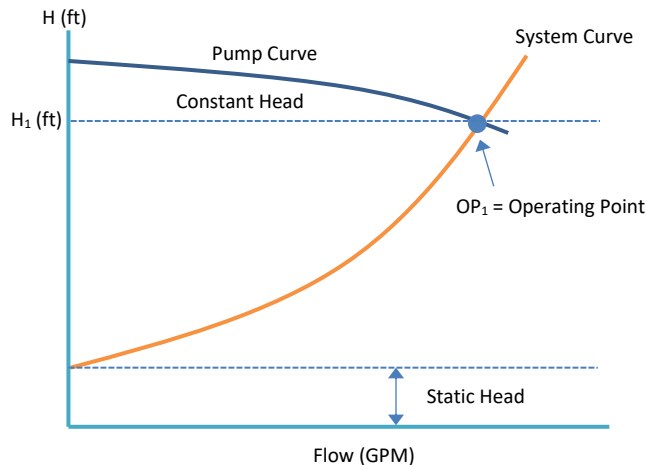

Figure 3-6 Pump and System Curves (Yorkland Controls 2019) (Eaton 2012)
3. On a call for 2nd stage heat the fan will ramp up to 100% (Figure 3-6).
On a call for stage-2 cooling the supply fan will ramp up to 100% (Figure 3-6).